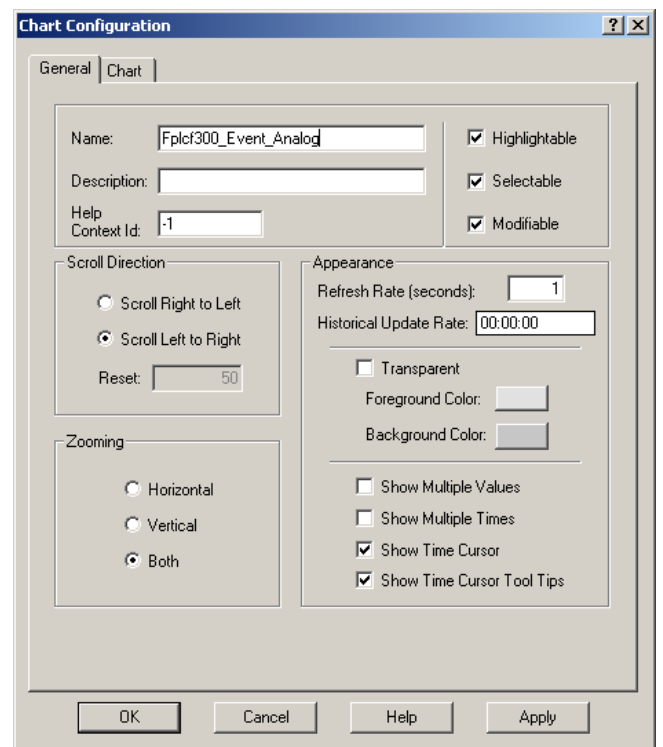

Fig 13.
6.3 Fill in the information in the **General** tab as shown (Fig 13).